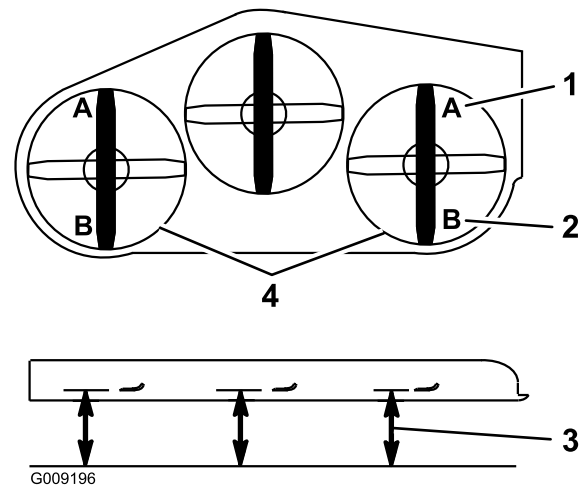

**Figure 97**
5. Push the deck-lift pedal all the way forward so that the deck latches at the 14 cm (5-1/2 inches) transport position (Figure 97).